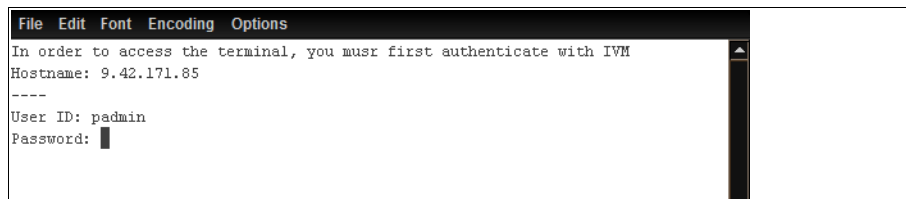

Figure 7-150 IVM virtual terminal to an LPAR
3. The virtual terminal window opens and prompts for the VIOS/IVM padmin password (for VIOS and client LPARs terminals), as shown in Figure 7-150. Enter the padmin password.